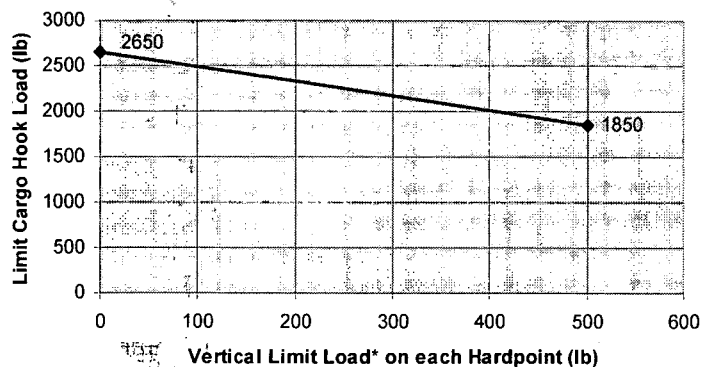

Figure 5 - Cargo Hook Limitations for Hardpoint Loads
* The Vertical Limit Load on each Hardpoint refers to the maximum allowable vertical limit load for a single hardpoint only. The 500 lb vertical limit load indicated in Figure 5 implies a maximum radial horizontal load of 280 lb, according to section 7 of this document. These limit loads should not be exceeded.